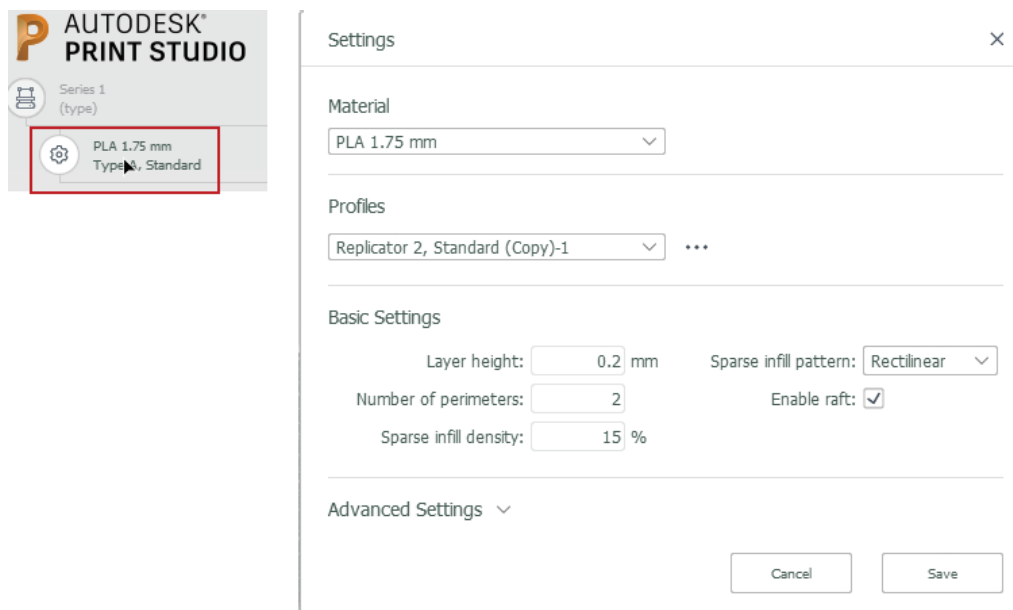

Figure-43. Changing Material and Printer Setting
- To change material, click on the **Change Material and Printer Setting** button below the **Change the Printer** button in the left toolbar; refer to Figure-43. The **Settings** dialog box will be displayed; refer to Figure-43. Select the **Profile** according to your needs in **Profiles** drop-down. In **Basic Setting** section, specify the desired parameters like height of each layer, pattern of infill in printing, infill density etc. Select the Enable raft check box if you are using raft at the base for better adhesion and stability of printed model.